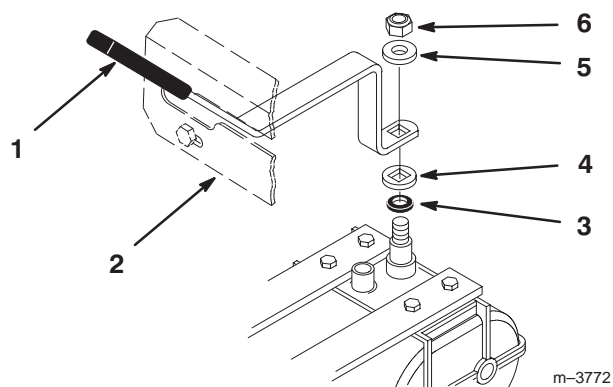

Figure 9
1. Remove the locknut (3/8 inch) and spring washer from the stud on top of the transmission (Fig. 9).
2. Slide the shift lever through the control panel and align the mounting hole in lever with square on transmission shaft (Fig. 9).
3. Secure lever to transmission with previously removed spring washer and locknut (Fig. 9).
4. Replace the spring washer, dish down, and locknut (Fig. 9).